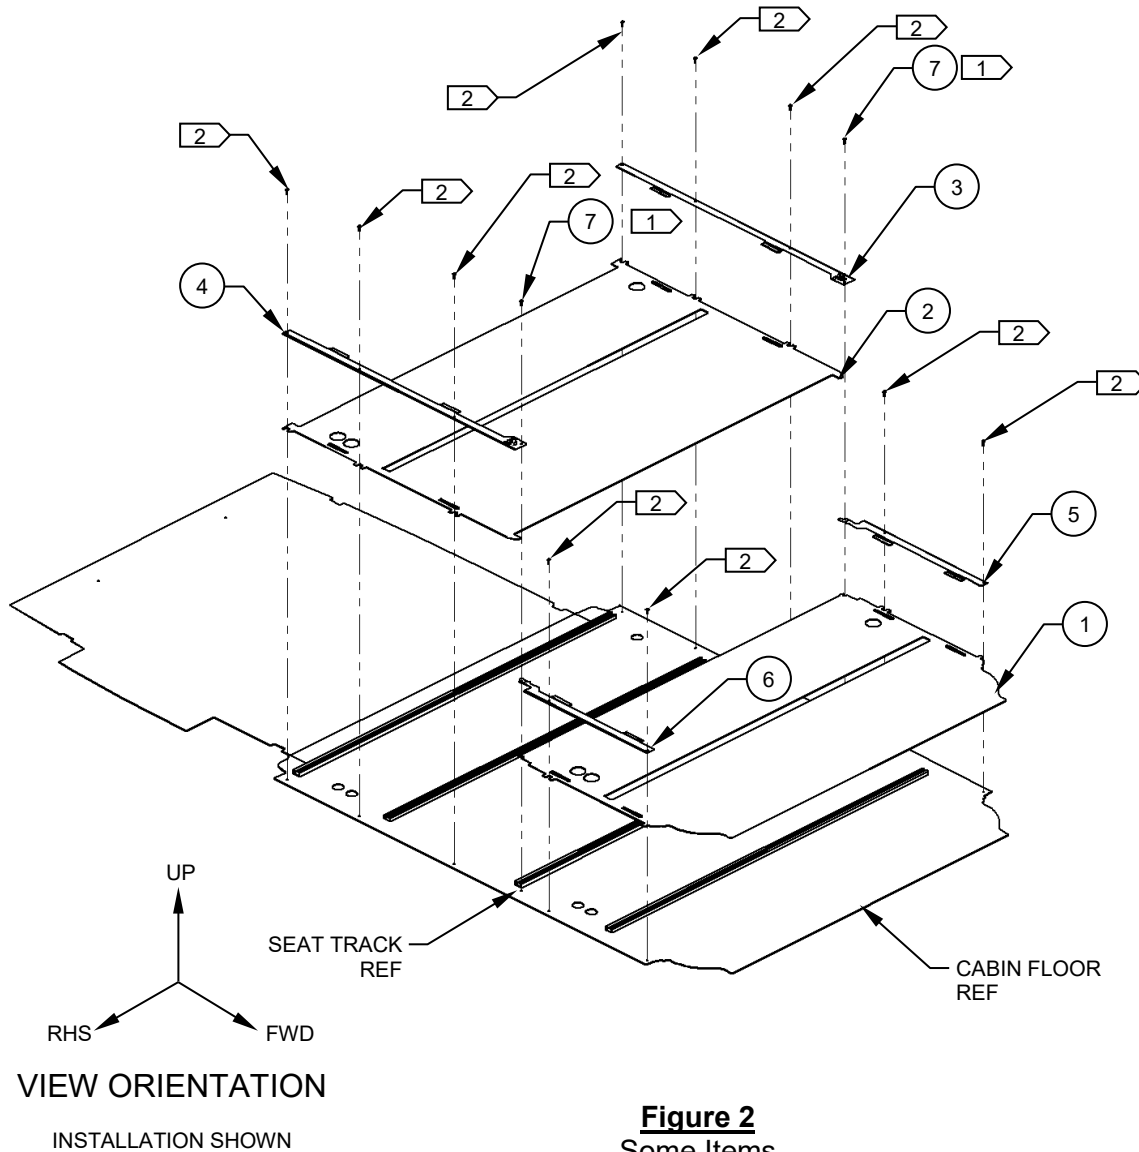

Figure 2
3. Remove all door sills, (Items 3, 4, 5 & 6). Reference Figure 2.
4. Remove both Panel, Assy's, (Items 1 & 2). Reference Figure 2.